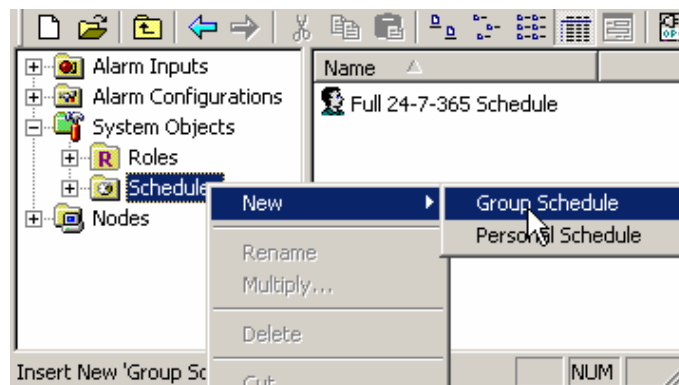

Figure 6.1. Creating a New Group Schedule
1. Right-click on the **Schedules** folder in the tree control and select **New > Group Schedule** from the pop-up menu, as shown in **Figure 6.1**.